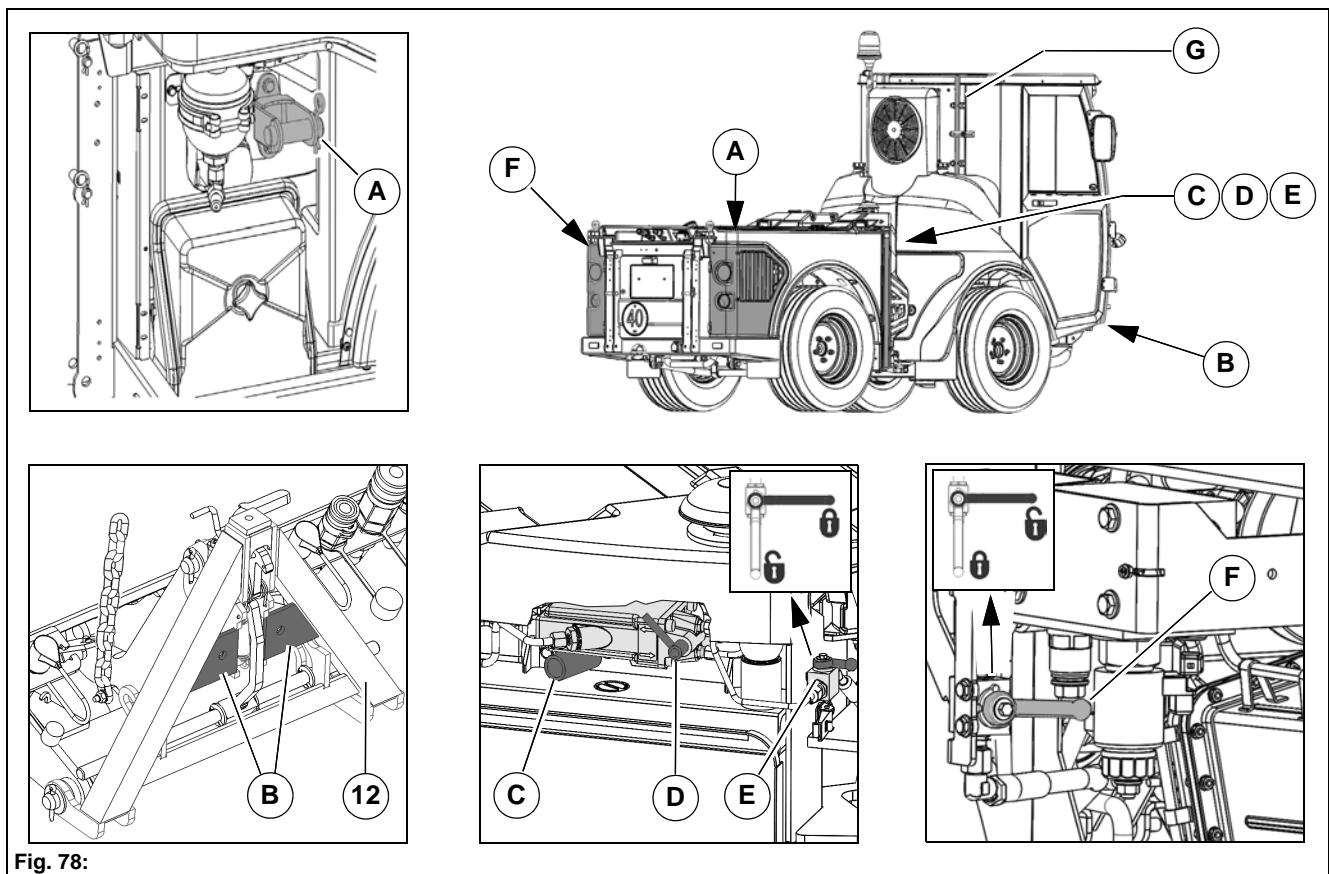

Fig. 78:
1. The towing eye **Fig. 78-A** is located in the rear wagon on the right and must be mounted on the holder **Fig. 78-B** of the front tool carrier **Fig. 78-12**.
2. Turn the lever of the hand pump **Fig. 78-D** into the upper position.
3. Close the ball cock **Fig. 78-E** to the right of the hand pump (see symbol).
4. Open the ball cock **Fig. 78-F** of the bypass valve (see symbol).
5. Insert the auxiliary tool **Fig. 78-G** in the hand pump **Fig. 78-C** and pump so long (approx. 25 times) until the parking brake is unlocked.
After completing the towing process, open the ball cock **Fig. 78-E** again and close the ball cock **Fig. 78-F** of the bypass valve again. Set the lever of the hand pump **Fig. 78-C** to the lower position again!